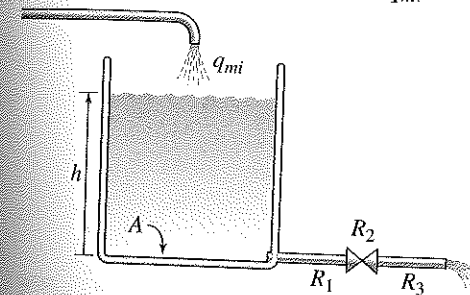

Figure P7.18
- 7.18 In the system shown in Figure P7.18, a component such as a valve has been inserted between the two lengths of pipe. Assume that turbulent flow exists throughout the system. Use the resistance relation 7.3.7. (a) Find the total turbulent resistance. (b) Develop a model for the behavior of the liquid height  $h$ , with the mass flow rate  $q_{mi}$  as the input.